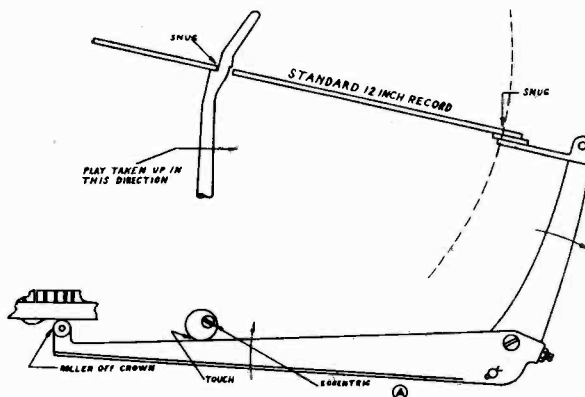

FIG. 5
When the changer is in Neutral position (out of change cycle) the shelf lever should be in the position as shown in Figure 5. To make this adjustment, proceed as follows:
1. Place standard 12" record on the turntable spindle and 12" record shelf plate as shown in Figure 5. The roller of the shelf lever must be off the crown of the cam gear when this adjustment is being made.
3. Loosen screw and adjust eccentric (A) Figure 5, until it touches shelf lever.
Place standard 10" record on spindle and 10" record shelf. The record should be snug against spindle notch as shown in Figure 5 for 12" records.
Do Not Change "Bump Lever Eccentric" shown in Figure 5 and which should be adjusted as given in paragraph "Neutral Shelf Position."